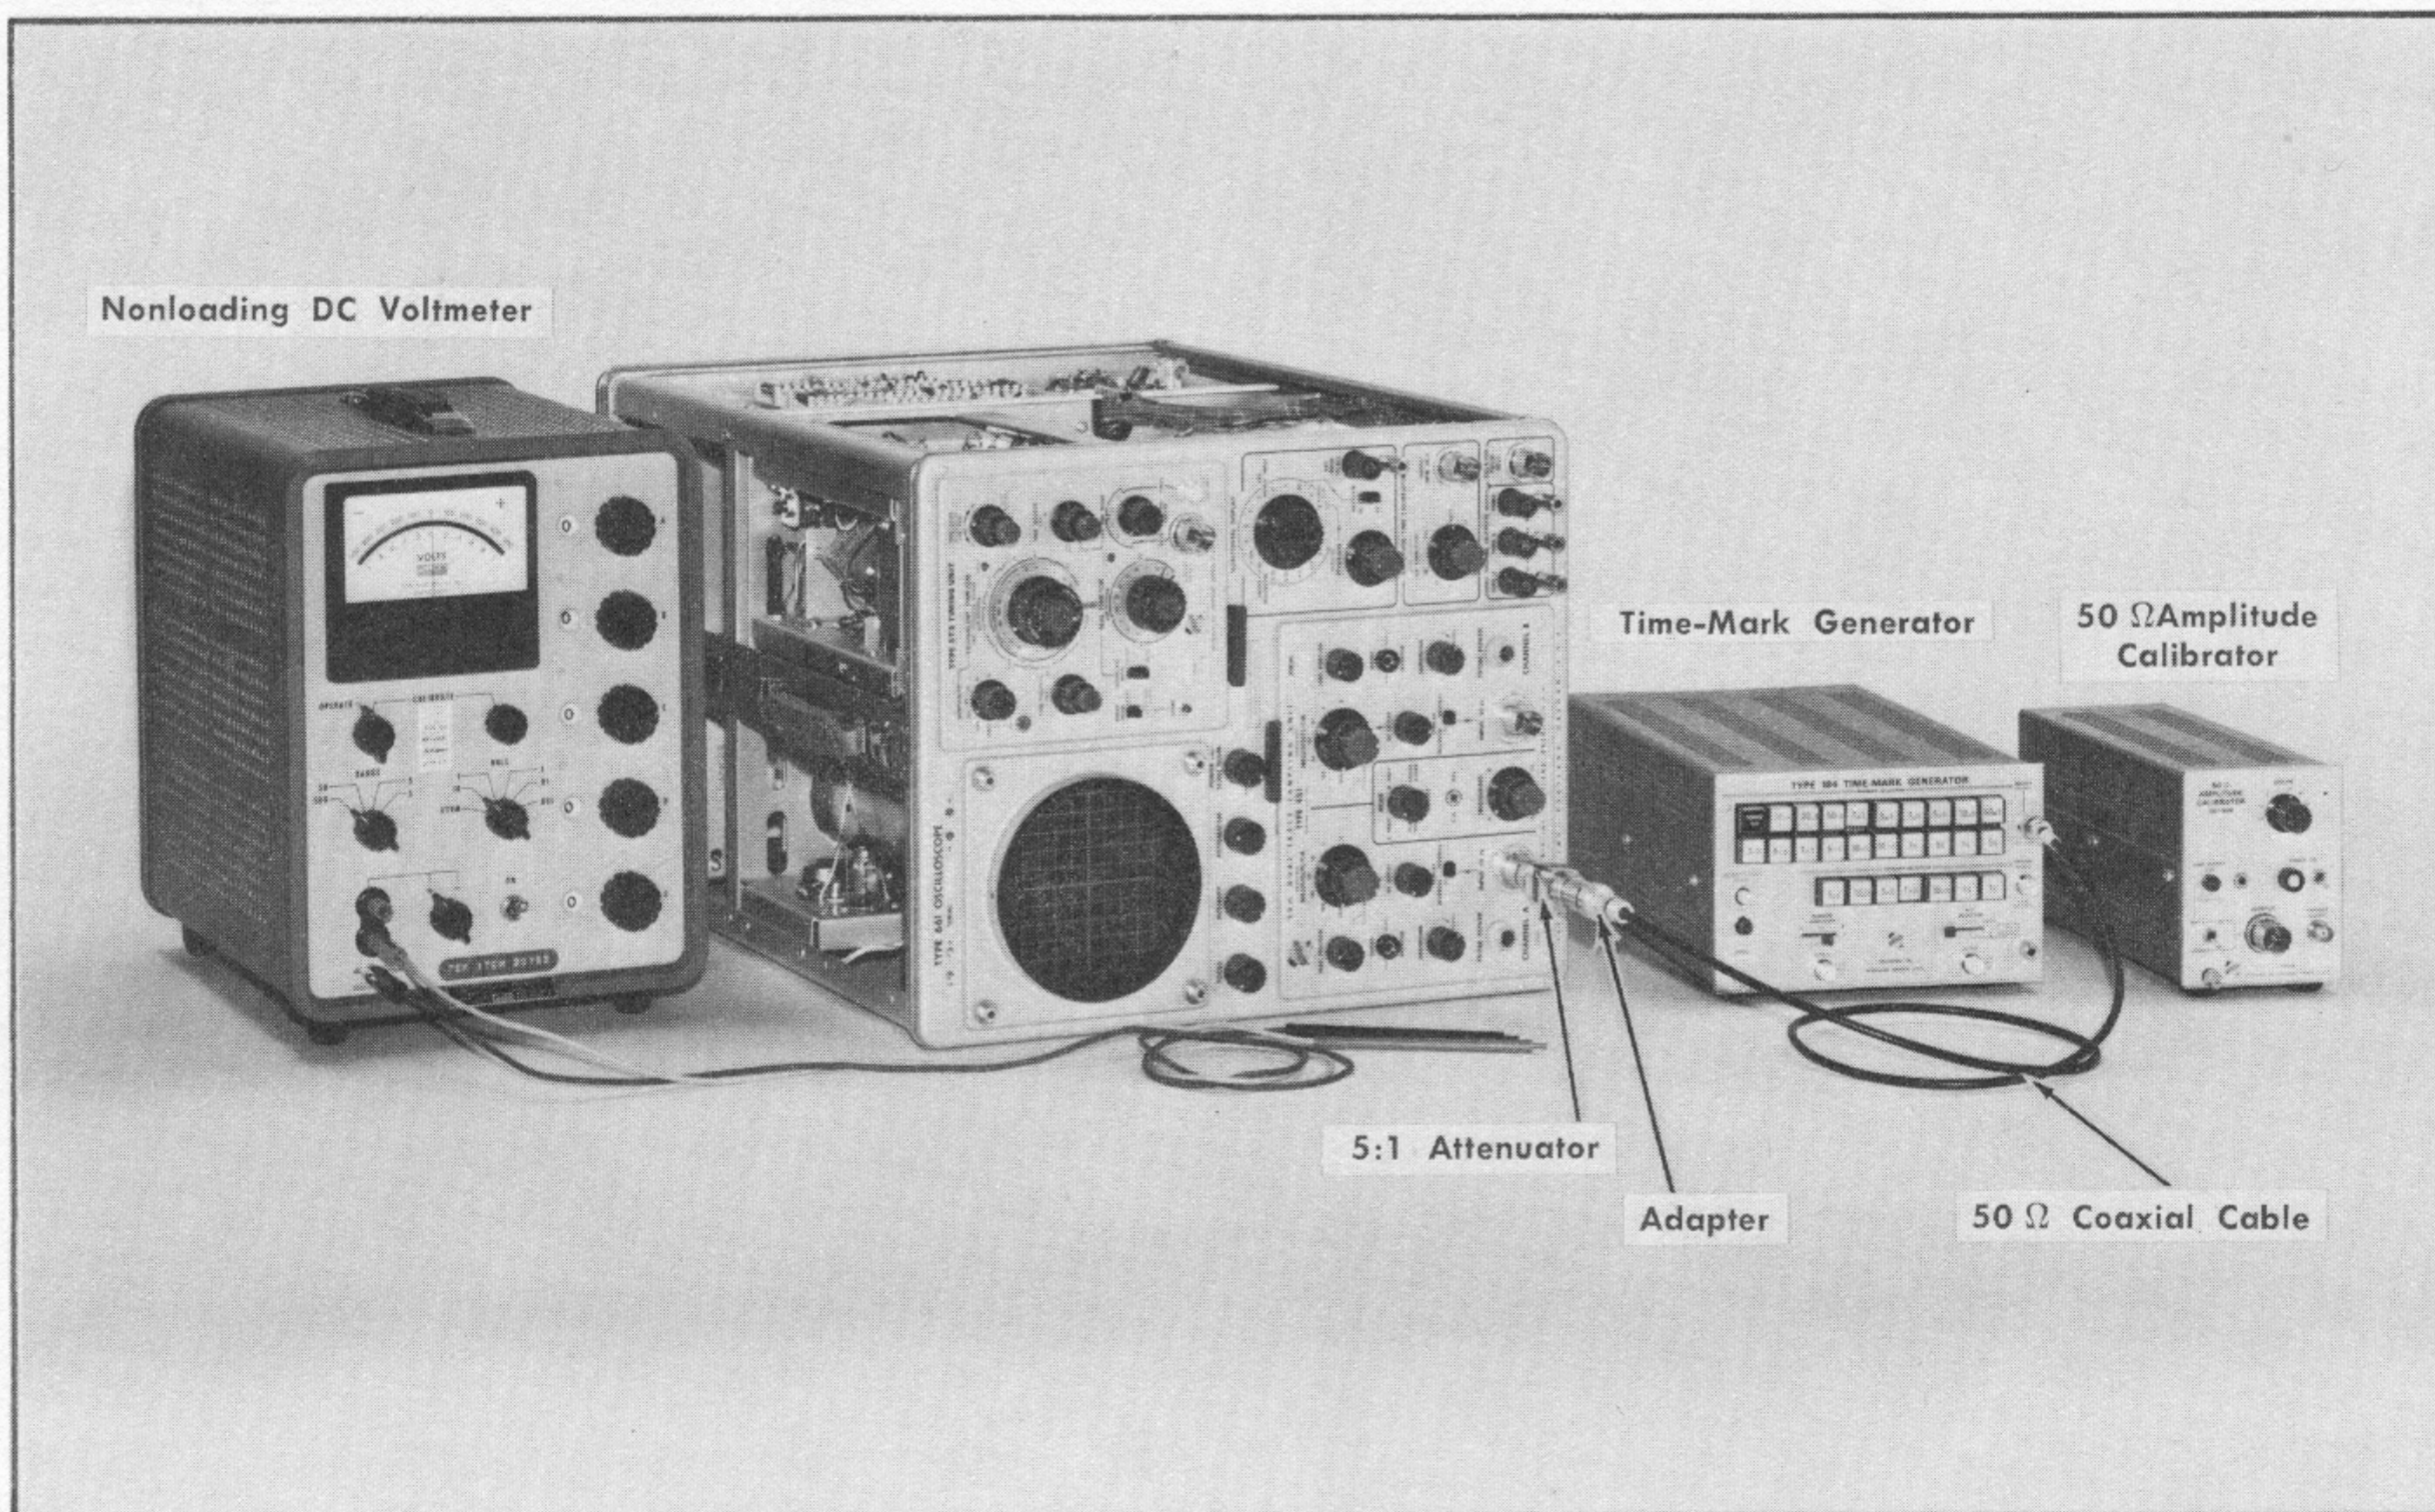

Fig. 6-30. Test equipment for steps 25 and 26.
a. Lay the Type 661 on its left side and use the equipment setup as shown in Fig. 6-30.